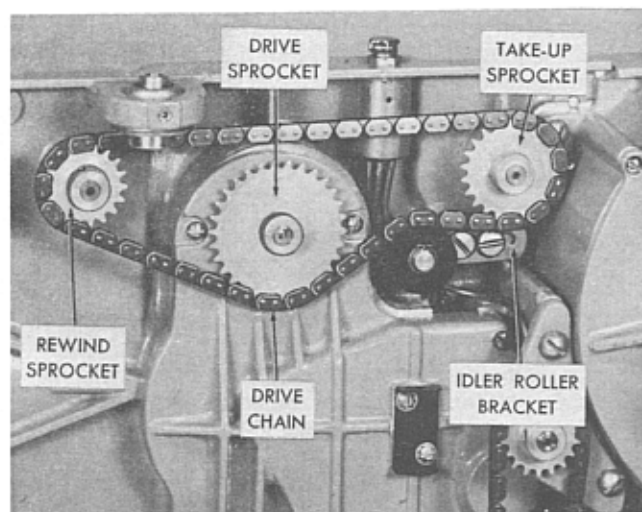

Figure 2-37. Drive Chain and Sprockets Installed
d. Fasten assembled drive chain idler assembly (28) loosely to mechanism plate with screws (29), flat washers (31) and lock washers (30). Adjust position of idler roller bracket so that there is a small amount of slack in drive chain, and tighten screws (29) securely. Proper installation of chain and sprockets is shown in figure 2-37.